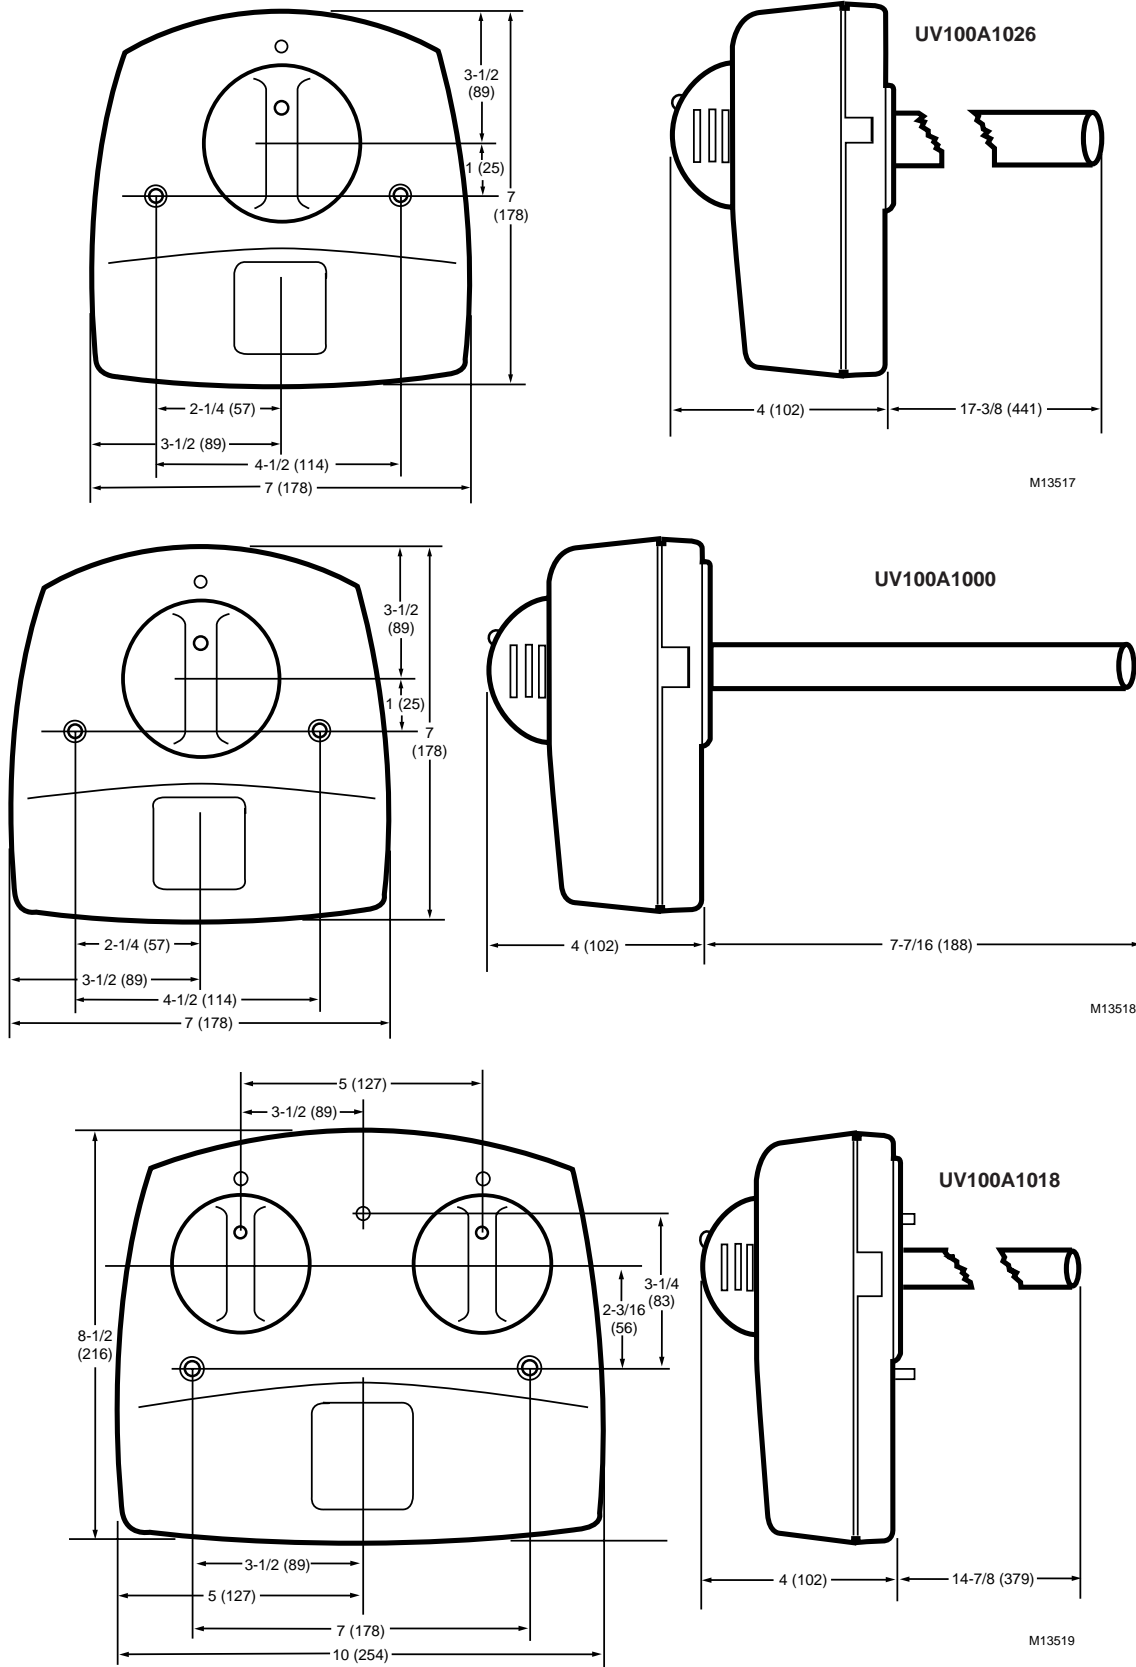

Fig. 2. Ultraviolet Air Treatment System dimensions in in. (mm).
3. Allow clearance in front of the device for removing the lamp assemblies. See Fig. 2 for lamp assembly lengths.
- b. The duct mounting location must be a minimum of 8 in. wide. See Fig. 2.
- c. The depth of the duct must accommodate the full length of the ultraviolet lamp for your model as shown in Fig. 2.